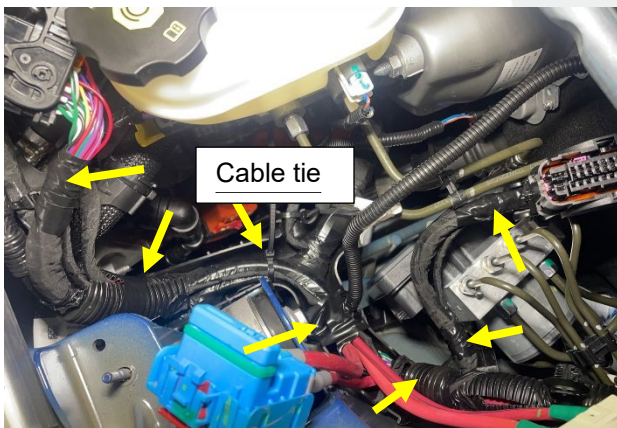

Figure 25 – Model S
17. Secure the overlay wire to the electrical harness using electrical tape and cable ties at the locations identified (Figures 25 and 26).